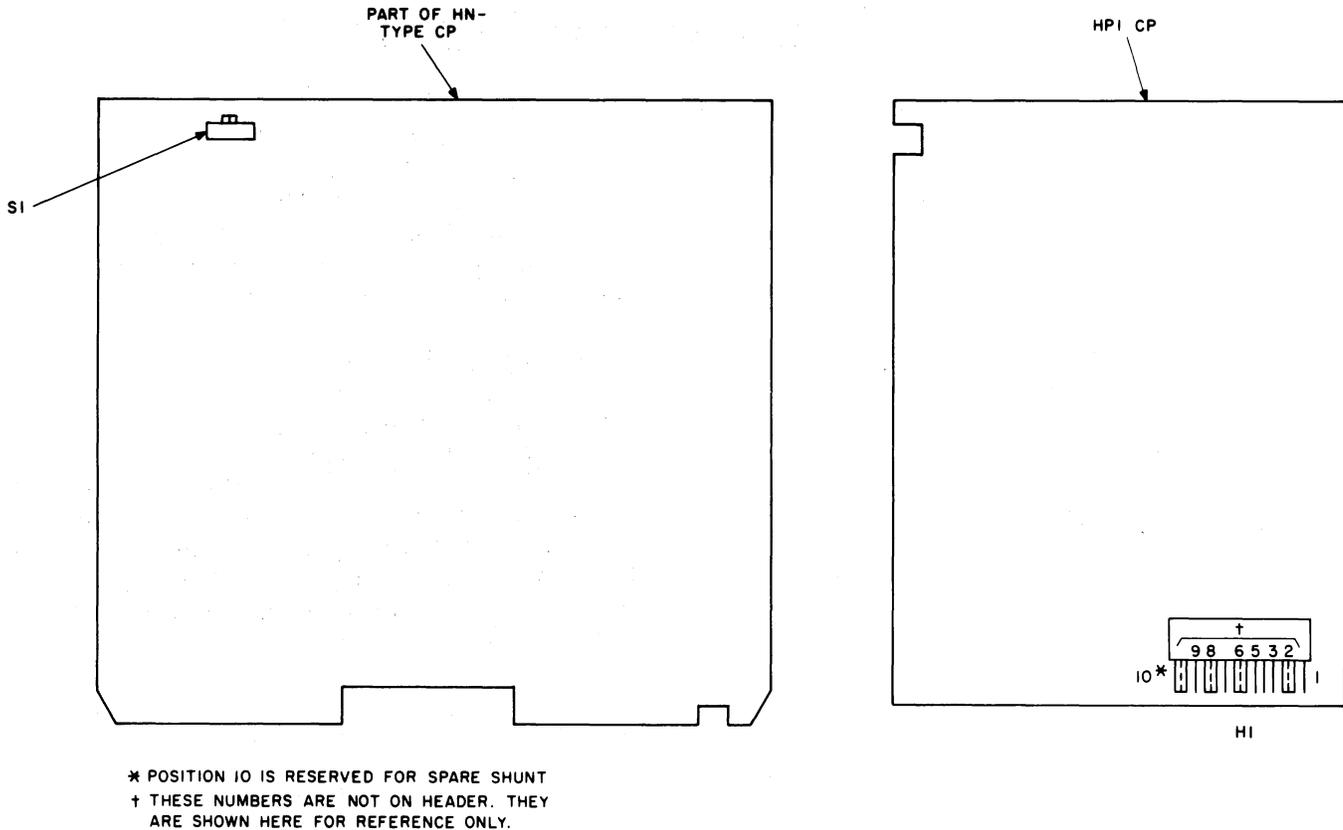

Fig. 1—DSU Option Switch and Headers
2.02 Circuit pack (CP) HP1 contains a right angle header H1, and HN-type CPs contain switch S1. The switch and header locations are shown in Fig. 1. To gain access to the header, the front and rear faceplates must be removed. Both faceplates are removed by depressing the two tabs located on the bottom edge and simultaneously pulling outward. To replace the faceplates, hook the tabs on the aluminum housing into the slots on top and gently snap the bottom edge of the faceplates into position.